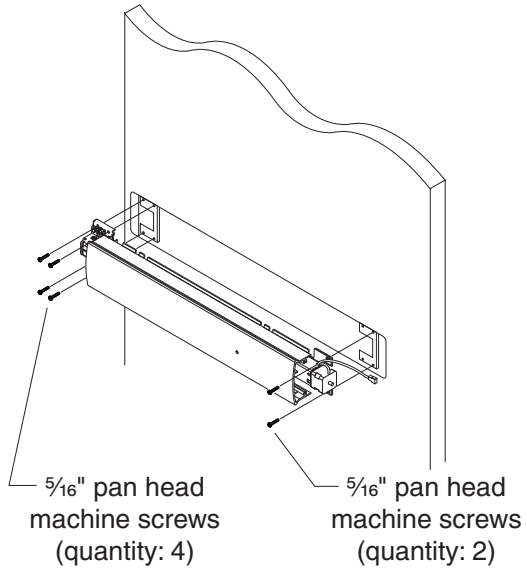

Figure 4-1
- Mount device on door using supplied mounting screws (Figure 4-1).